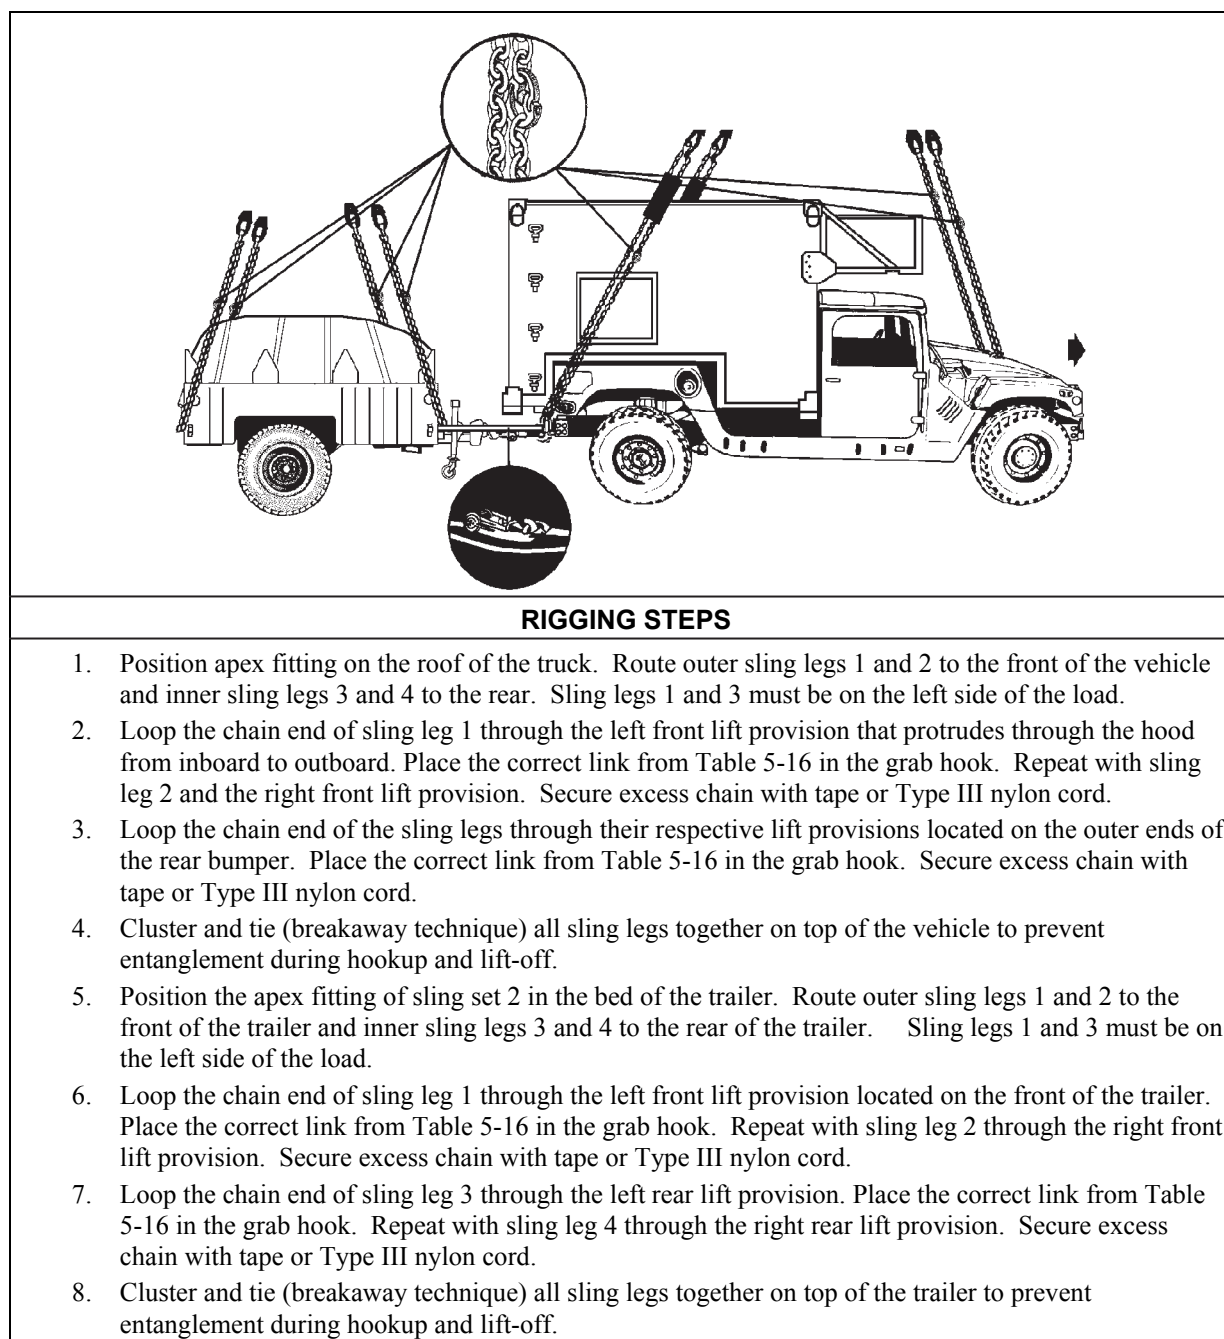

Figure 5-16. M1113 with LMS Shelter and High Mobility Trailer
- **Rigging.** Rig the load according to the steps in Figure 5-16.